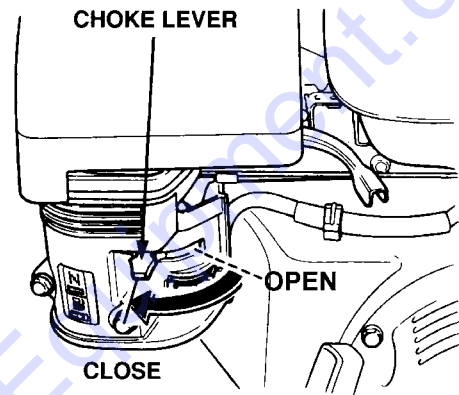

Figure 21. Choke Lever
- Place the Choke Lever (Figure 21) in the "CLOSED" position.
8. If the engine has started, slowly return the choke lever (Figure 21) to the "OPEN" position. If the engine has not started repeat steps 1 through 7.